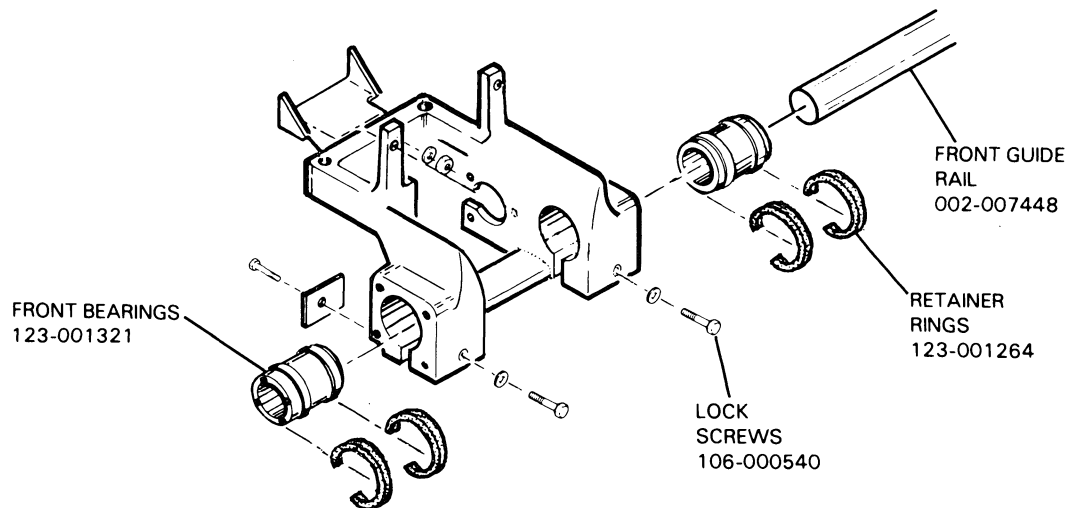

Figure 5.15 Front Bearing Removal
8. Remove two front bearings by loosening the lock screws and unsnapping the retainer rings (see Figure 5.15).